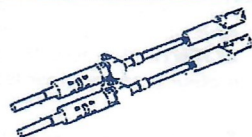

Fig. 4
7. Insert the adapter into the mounting location on the engine. **Fig.4**